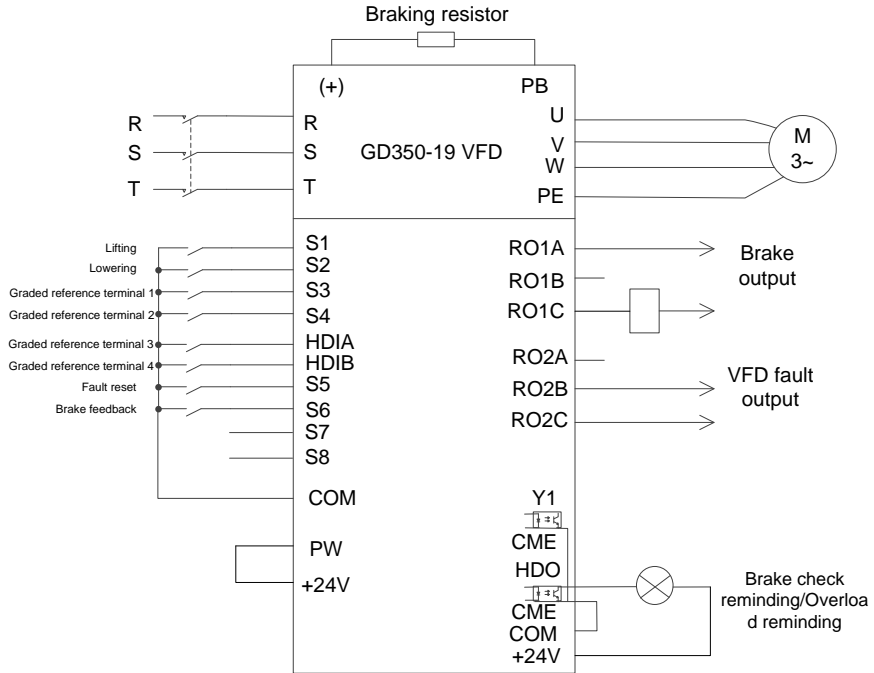

Figure 5.1 Wiring for lifting in open-loop vector control
**Note:** If the wiring is performed according to Figure 5.1, most VFD parameters need no adjustment. If the onsite function terminals are inconsistent with the terminals shown in the figure, adjust the input and output terminal functions according to the actual wiring after selecting the open-loop vector controlled lifting application macro.